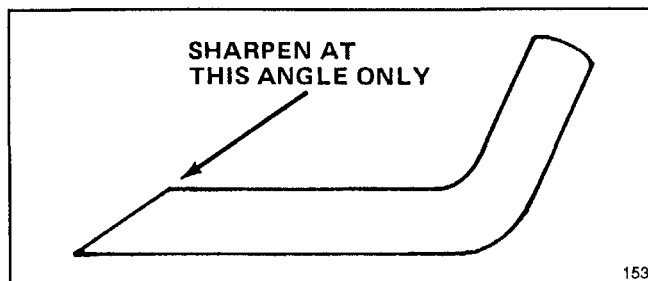

Figure 26
6. SHARPENING BLADE—Using a file, sharpen top side of blade (side facing mower housing) and maintain original cutting angle (Fig. 26). The blade will remain balanced if the same amount of material is removed from both cutting edges.